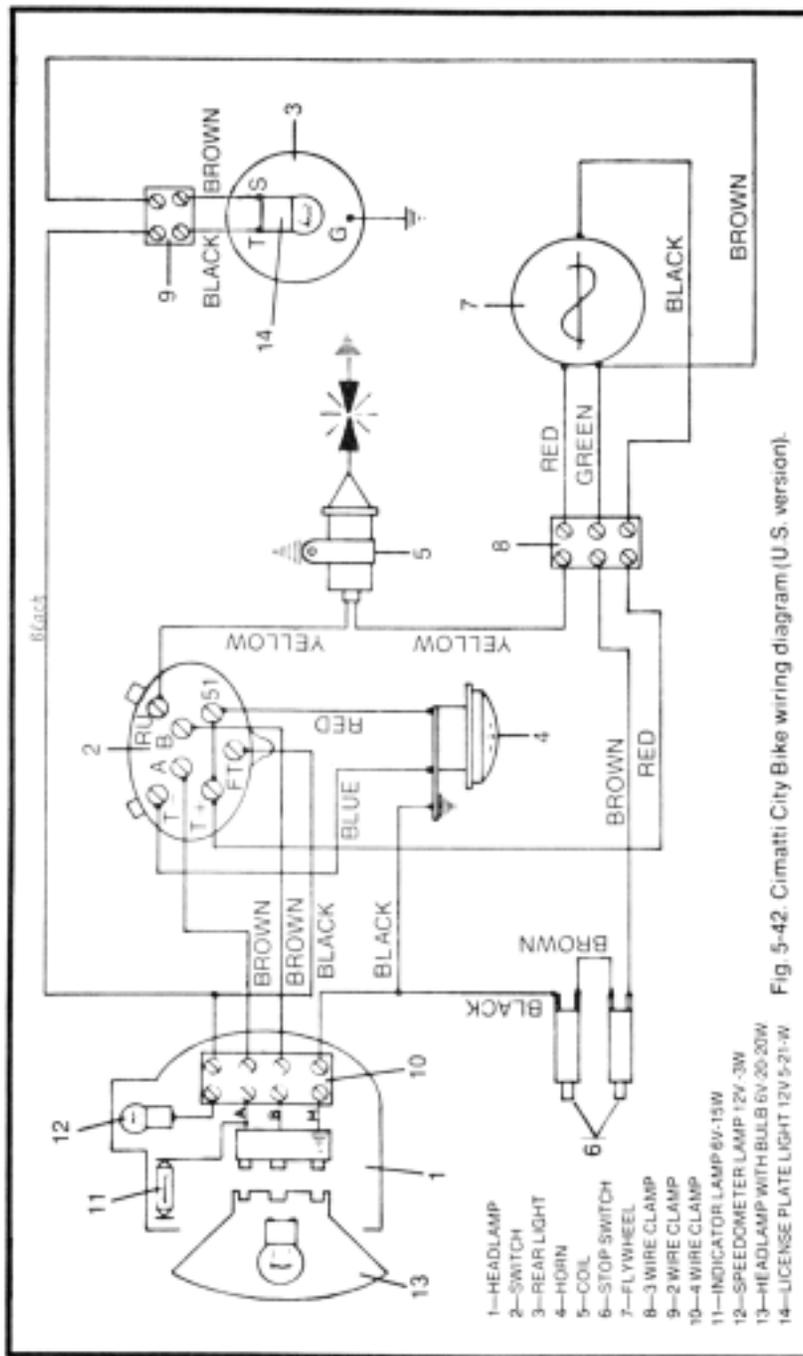

Fig. 5-42. Cimatti City Bike wiring diagram (U.S. version).
The bike's wiring diagram should be the basic tool for troubleshooting, and would be if we could trust them. Figure 5-42 is the wiring diagram for the U.S. version of the Cimatti City Bike. While the main outlines of the circuits are clear, things get a little fogged at the switch (2). But this is characteristic of all automotive diagrams, for these drawings combine schematic with pictorial elements, and do justice to neither. The wiring layout is quite functional, in straight lines from connection to connection, with no attempt to reproduce the tangle of wires on the actual machine. The lamps, ignition coil, and stop switches are pictorial, intended to call to mind the actual appearance of the object. The circuitry inside these pictures is incomplete or ignored.
Jumping is a way of isolating a suspect component or circuit branch by shunting it out of the main circuit. An example—keyed to the diagram in Fig. 5-42—will make this clearer. Suppose that the engine has no spark and that you suspect the trouble is outside the magneto. Connect one end of a short length of wire to the brown/green terminal at the magneto clamp (8) and ground, and the other end to a clean, paint-free surface on the engine or frame. (Any fairly heavy-gauge wire with its ends bared will do, but if you expect to use such as jumper cable often, make one using gauge stranded wire and fit the ends with alligator clips or test probes.) If the tail light or its associated circuit is defective, the engine will start since the jumper has ground to the exciter coil.